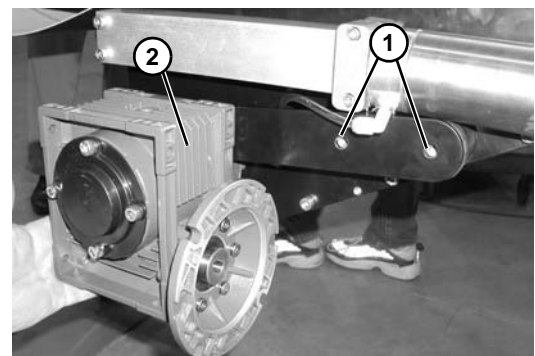

**Figure 115**
1. Remove air supply and remove hose (**Figure 115, item 1**) from center drive.
2. Remove screws (**Figure 115, item 2**) and guard (**Figure 115, item 3**).